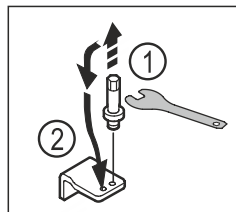

Fig. 13
- Unscrew the bolt of the lower swap bearing block with an Allen key AF5. Fig. 13 (1)
- Insert the bolt on the opposite side. Fig. 13 (2)